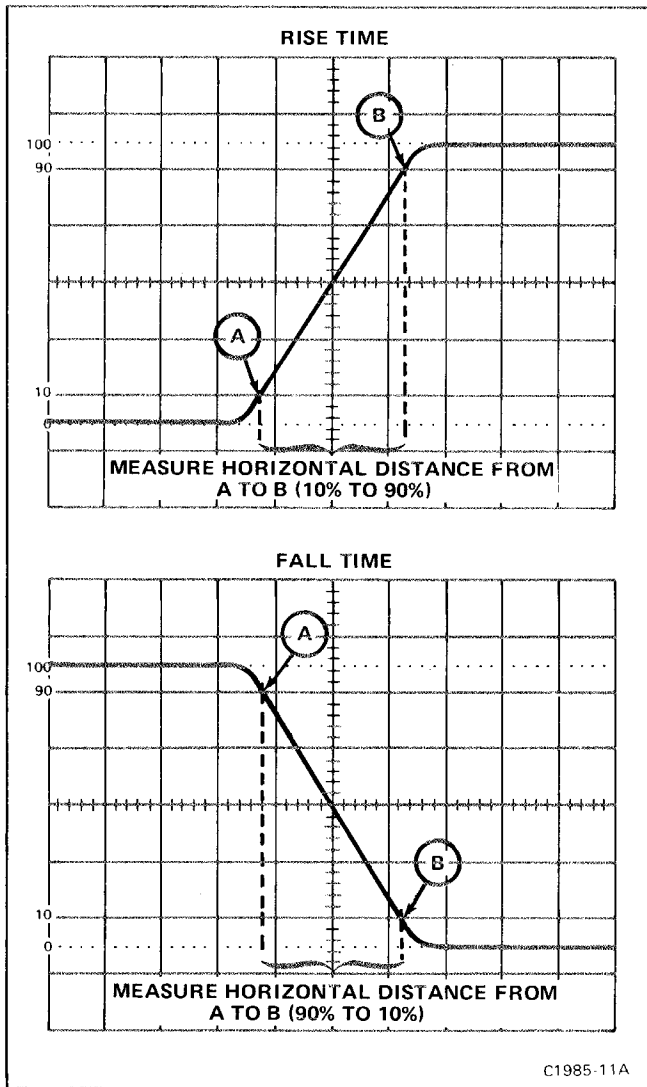

Figure 1-8. Measuring the rise time and fall time of a displayed waveform.
6. Set the TIME/DIV switch and POSITION control to display the rising or falling portion of the waveform within the center 8 graticule divisions as shown in Figure 1-8 (see General Operating Information in this section for discussion of timing measurement accuracy).
7. Determine rise time or fall time by measuring the horizontal distance in divisions between the point on the rising or falling portion of the waveform that is 10% and the point that is 90% of the total display amplitude (see Fig. 1-8).
Example: Assume that the horizontal distance from the 10 to 90% points is 2.5 divisions and the TIME/DIV switch setting is $.1 \mu s$ (see Fig. 1-8).